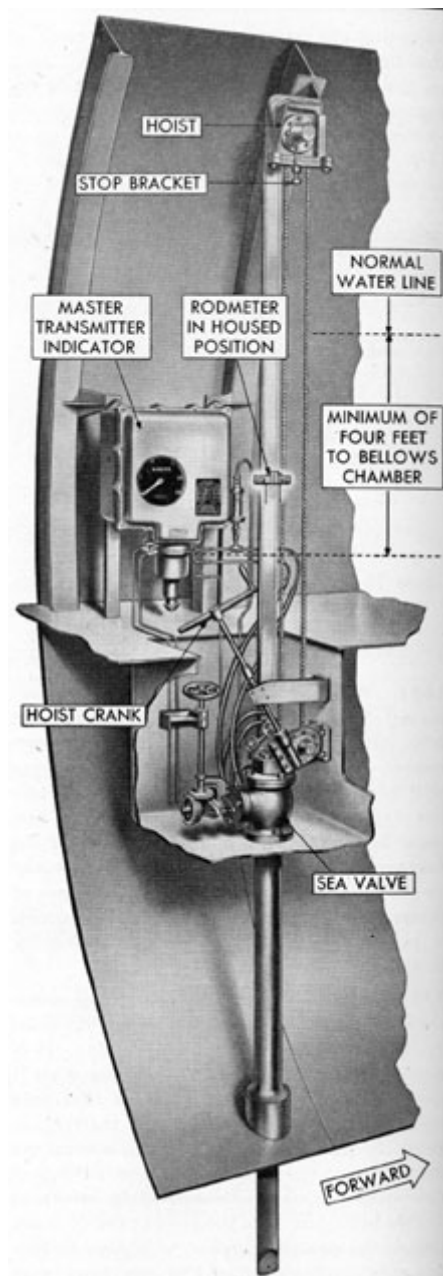

Figure 13-8. Rodmer and hoist.
**13B3. Removing solid obstructions from the rodmeter.** (See Figure 13-8.) If obstructions cannot be removed by blowing out the rodmeter with compressed air, the following operations are necessary: Raise the rodmeter to its fully housed position. Close the sea
9.) Loosen the hose clamps and remove the two lengths of hose from the nipples on the upper end of the rodmeter. Remove the nipples from the rodmeter and plug the tapped openings with wooden plugs or standard 1/8-inch pipe plugs. Disconnect the hoist chain link from the rodmeter. Remove the two nuts and bolts that secure the straps and handle to the rodmeter and remove the straps and handle. Raise the hoist chain until the connecting link is in its topmost position against the stop bracket above the rodmeter (Figure 13-8).